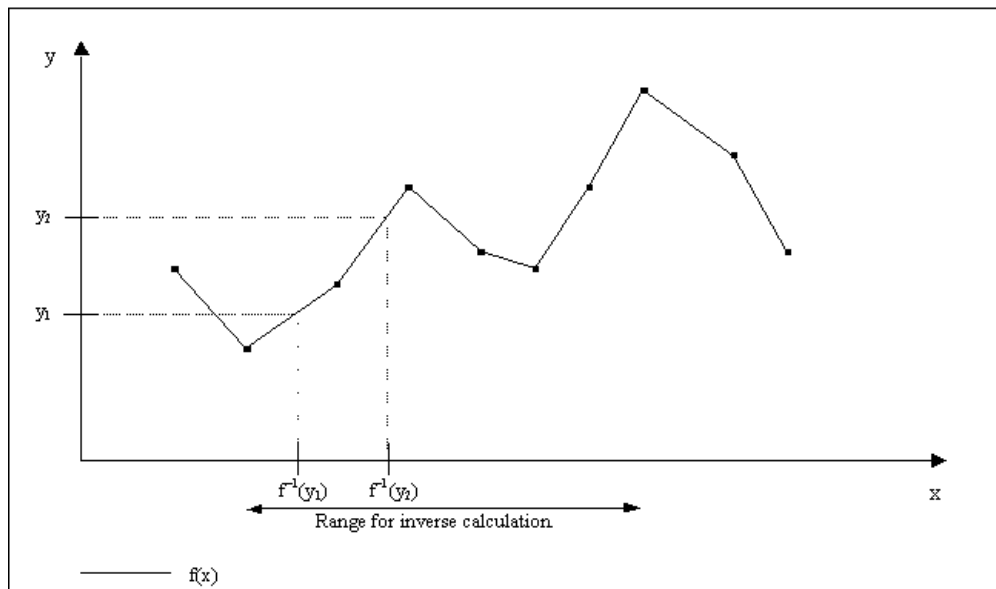

Figure 90. Calculation of the inverse function $f(x)$
- If the inverse is still not unique, the smallest value is chosen. This is illustrated in Figure 90, which shows the inverse calculation for two different *InInverse* values, y_1 and y_2 . For y_1 there are two possible inverse values. The rightmost is chosen, since the inverse is calculated from the curve between the maximum and minimum values. For y_2 , there are four possible inverse values, three of which are inside the inverse range. The leftmost of these is chosen. If *InInverse* is greater than the maximum defined value of y or less than the minimum defined value of y , the inverse calculation is based on using the maximum or minimum value respectively.